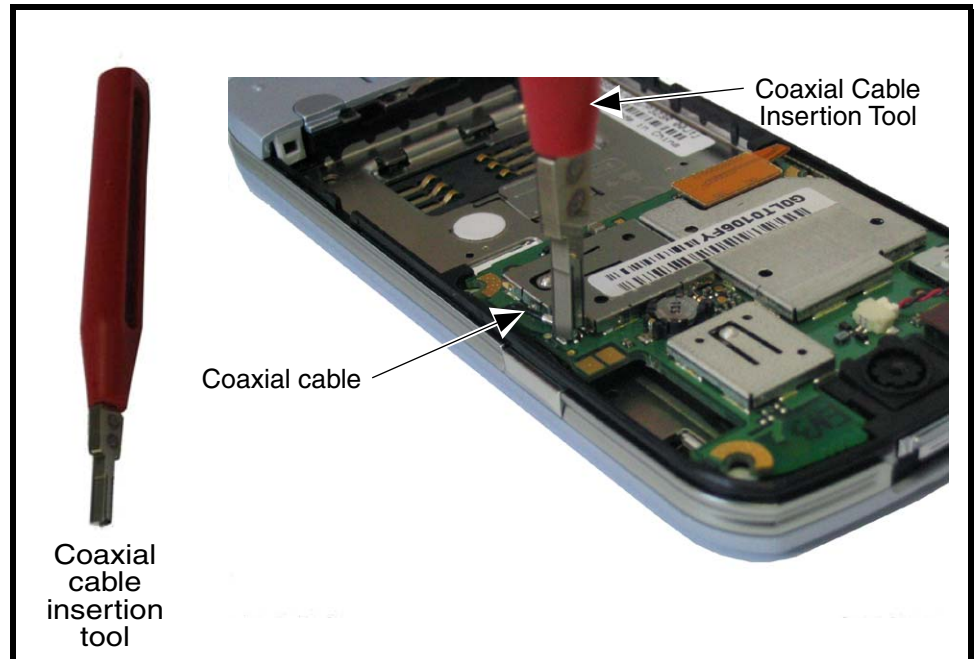

Figure 15. Coaxial Cable Connector Insertion
9. Carefully re-attach the alert speaker wire connector, display flex connector, the main flex connector, and the coaxial cable, to the transceiver PC board (see Figure 15).